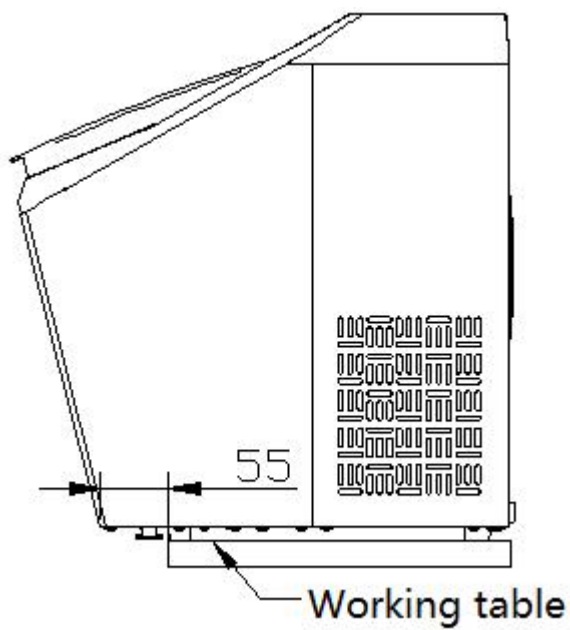
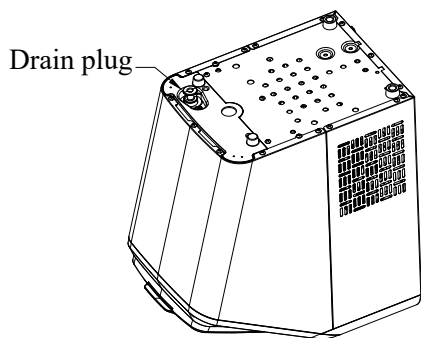
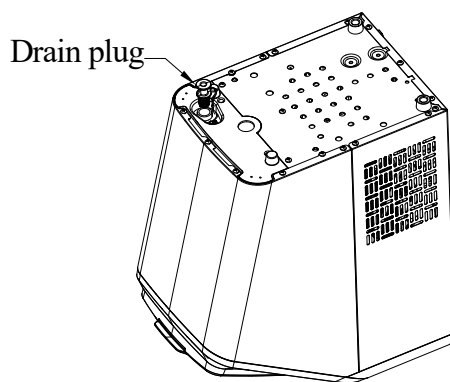

Fig. 1
Fig. 2
Fig. 3
3. Move the appliance forward to a place 60mm away from the working table and open the drain plug to drain out excess water (see Fig.1, Fig.2 and Fig.3).